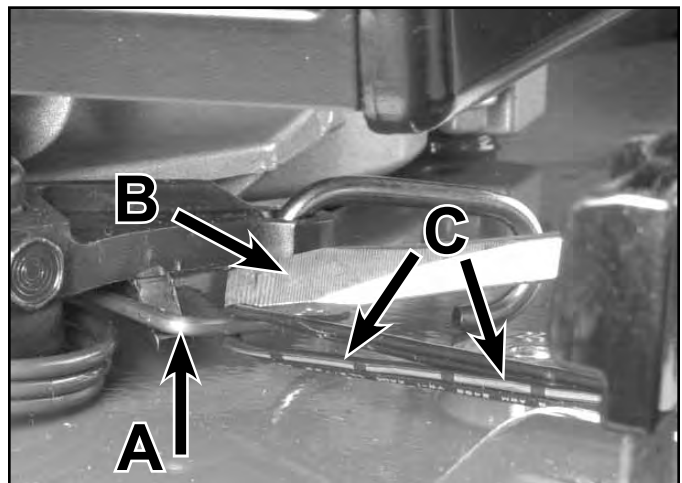

Fig 218
3. Take a loop of wire or rope and unhook the spring under the lever (Fig. 218). With the tension removed you can now remove the long screw through the lever. We would suggest loosening this screw, but leave it engaged at this time (Fig. 220).